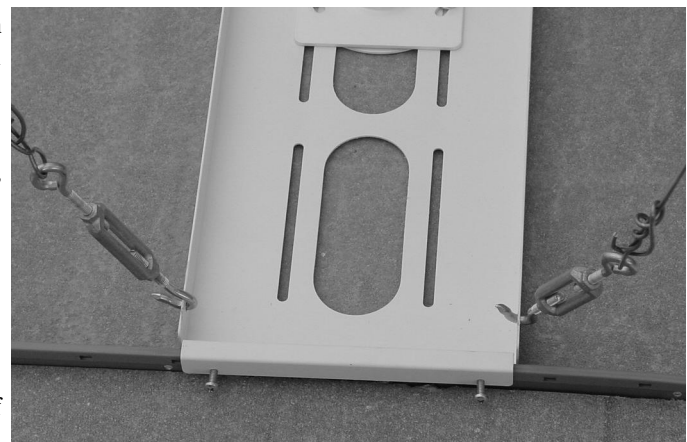

Figure 7. Anchoring
WARNING: Make sure the tie wire will not become loose. Thread the end of the wire back through the first loop, closest to the eyebolt, and bend the end of the wire up to prevent the wire from untwisting (see Figure 7).
2. Insert the wires through the ends of the turnbuckles. Twist each wire around itself at least four times, then thread the wire back through the loop closest to the eyebolt (see Figure 7).